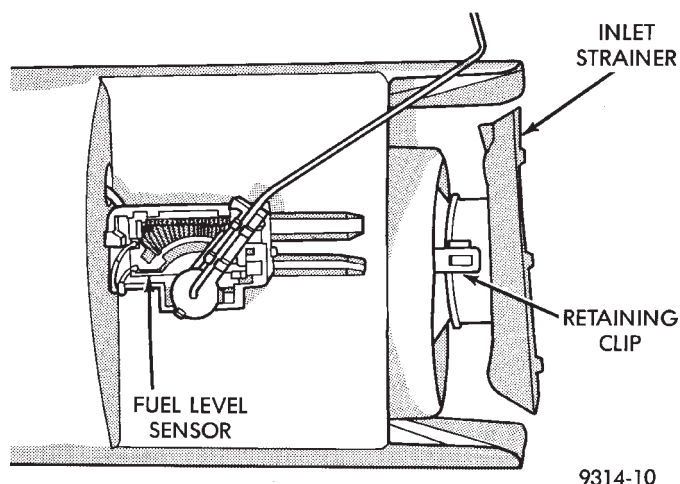

Fig. 16 Inlet Strainer
- (1) Spread retaining clips and remove strainer (Fig. 16).
- (2) Replace strainer O-ring.
- (3) Install new strainer into retaining clips. Strainer should snap into place.